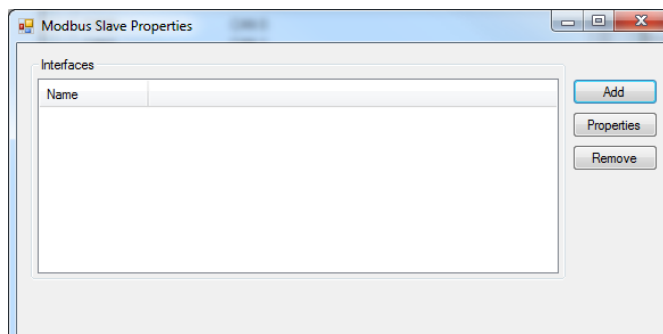

Figure 2-48 - Modbus Properties
4. Click / select **J1939** (highlight). Refer to Figure 2-48.